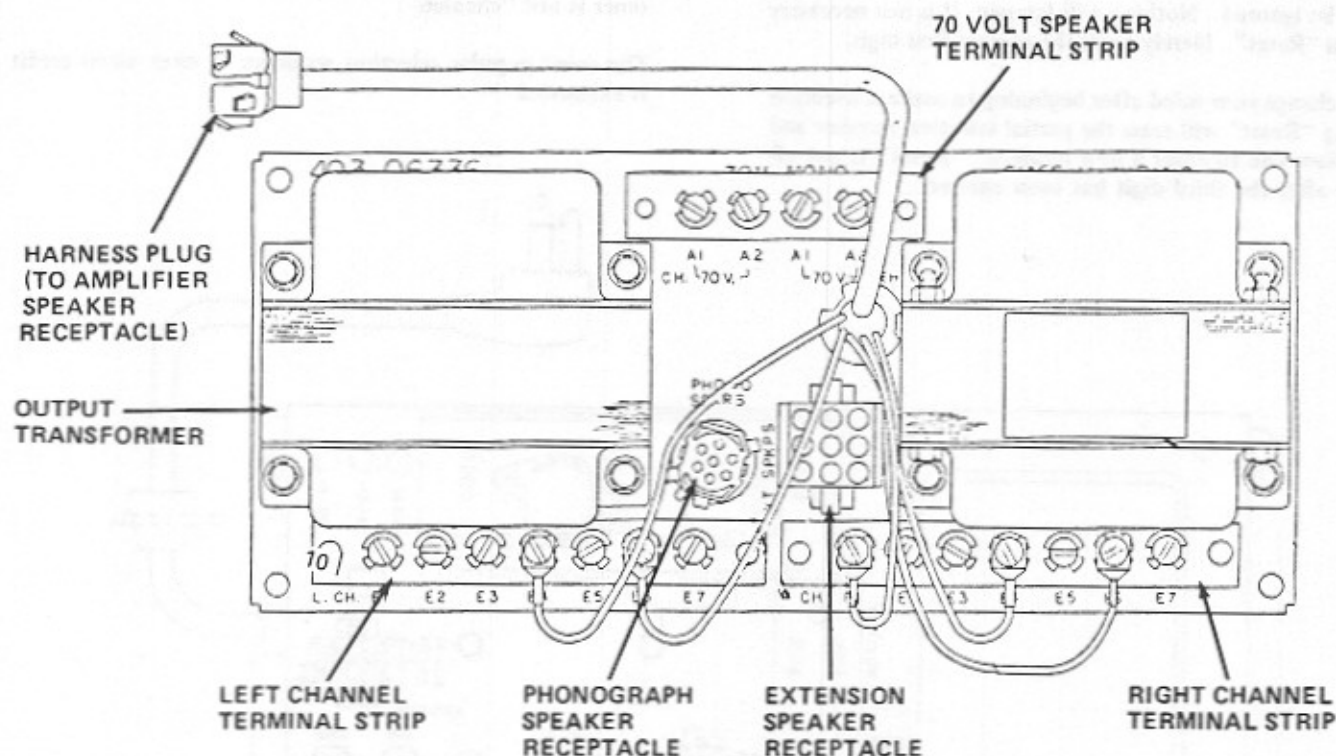

FIGURE 3. OUTPUT TRANSFORMER PACKAGE COMPONENTS
**Output Transformer Package** (see figure 3 ). The transformer package enables the amplifier to operate 70 volt lines for extension speakers. The package also provides terminal strips for obtaining several different power levels for both phonograph and extension speakers. The unit consists of two output transformers and associated parts mounted on a single chassis. The chassis is mounted to the floor of the cabinet to the left of the record changer mechanism.
The output transformer secondary connections are available at three terminal strips. Phonograph speaker power is selected by connecting the violet and pink leads according to figure 3. Extension speakers can be connected as directed in Table 3, of speaker connection chart.